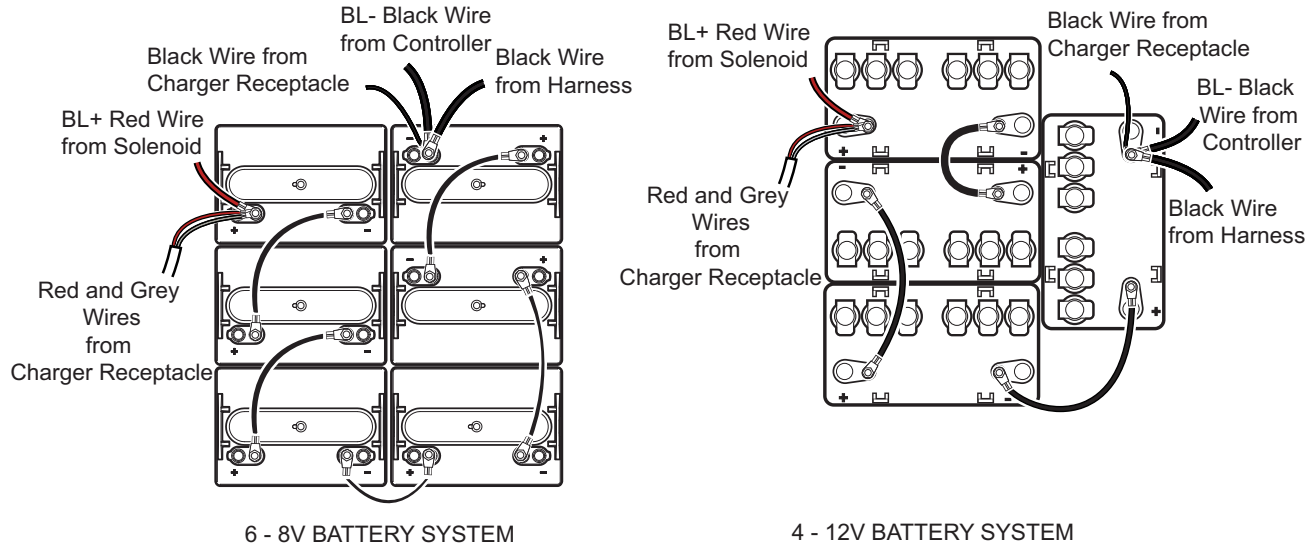

Figure 8 Battery Connections
13. Carefully reconnect the wires on the battery terminals as shown (Figure 8). Make sure to reconnect the main negative (-) battery cable, BL-, from the controller lastly.